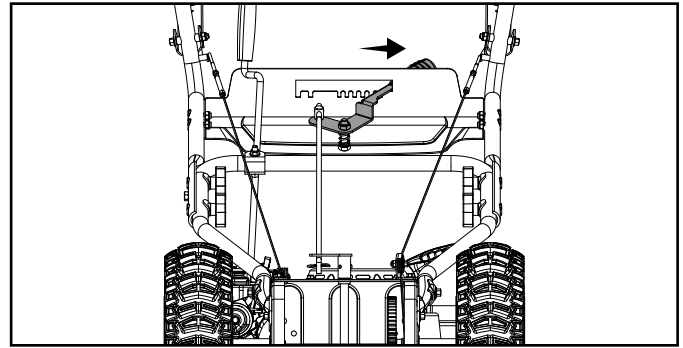
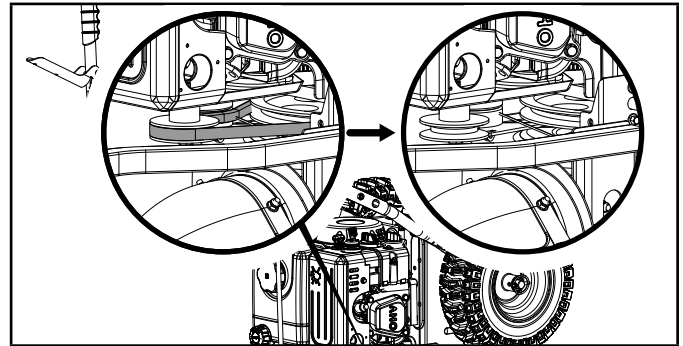

Figure 31A
Figure 31B
6. Slide the speed adjusting handle to the right (Fig. 31A) and remove the loose belt by cutting it or any remaining belt pieces if the belt has already broken (Fig. 31B). If cutting the belt be careful of the tensioning pulley and arm as they are spring loaded and could cause injury when the belt is cut.